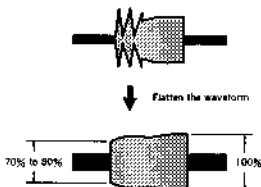

Fig. 5
- (4) Turn slowly the No. 2 Guide clockwise so that flatten the waveform at the entrance side. (fig. 5)